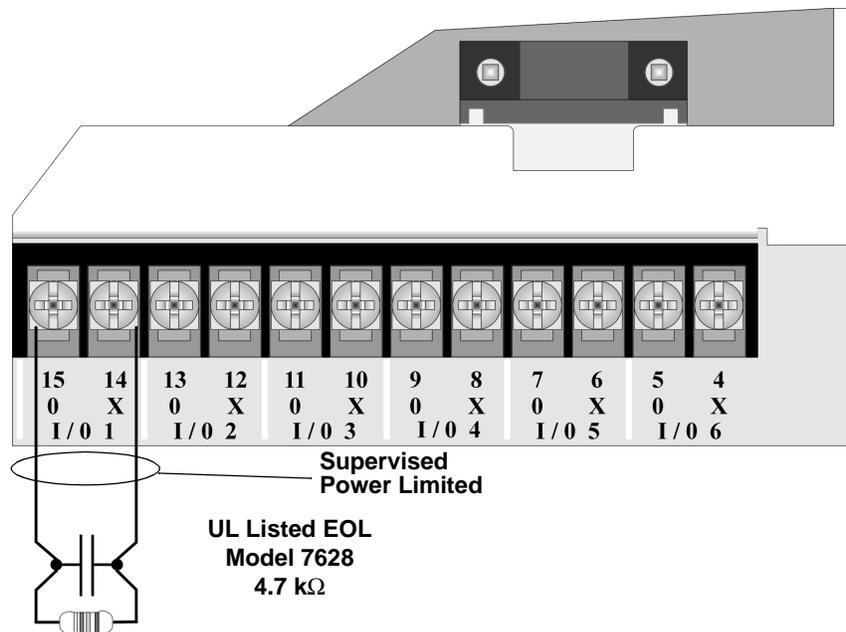

Figure 4-39 Class B Input Switches
1. Wire the Class B switch as shown in Figure 4-39.